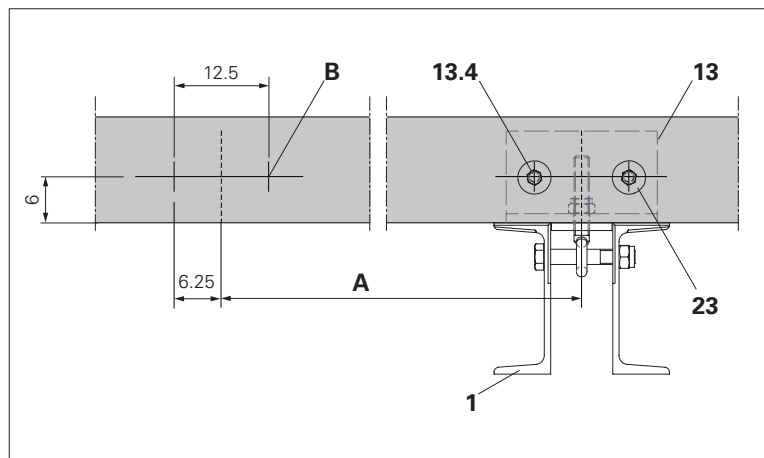

Fig. C3.03
1. Carry over the position of console bracket axes A to the enclosure beam and mark drilled holes B which correspond to Fig. C3.03.
2. Place the squared timber adapter (**13**) in the subsequent mounting position as a drilling jig. Drill squared timber with Ø 12 mm. (Fig. C3.03)